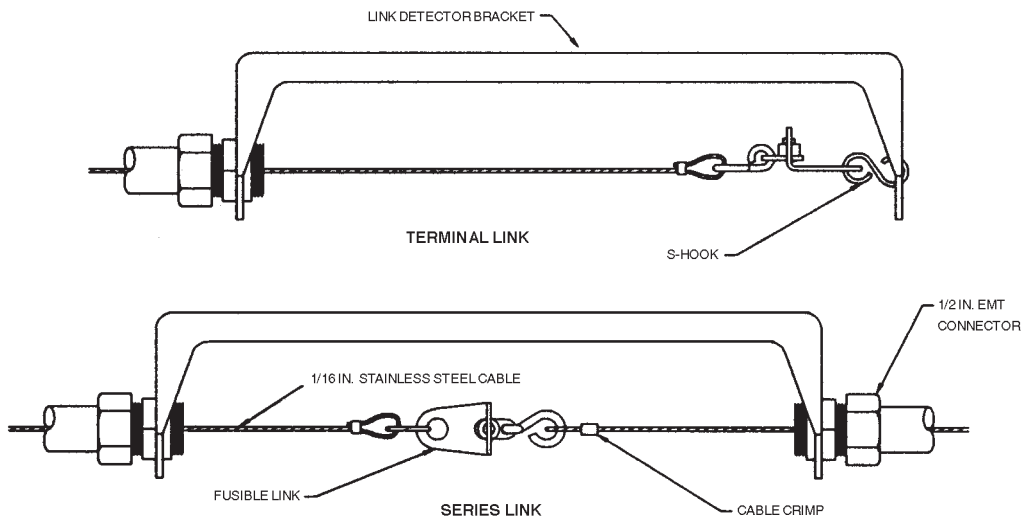

FIGURE 2-13
- ▶ The Model FLK-1 Assembly (Part No. 550131) includes a 10 in. (254 mm) steel bracket, two 1/2 in. EMT connectors, two cable crimps, and two “S” hooks. Fusible links must be ordered separately. See Figure 2-13.